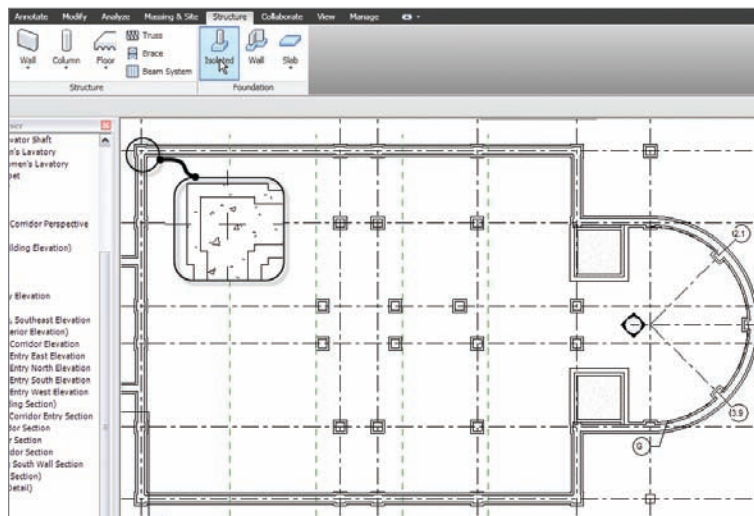

FIGURE 8.66 The completed foundation
2. On the Foundation panel of the Structure tab, select the Isolated Foundation button, as shown at the top of Figure 8.66.
16. Your foundation plan should resemble Figure 8.66.